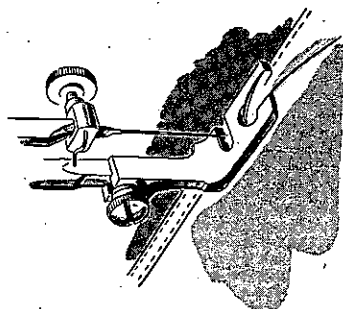

Fig. 28
11. Lower hemmer and sew as in ordinary "Straight Stitch Hemming". Guide first row of stitches along left edge of protruding toe of hemmer (Fig. 28).